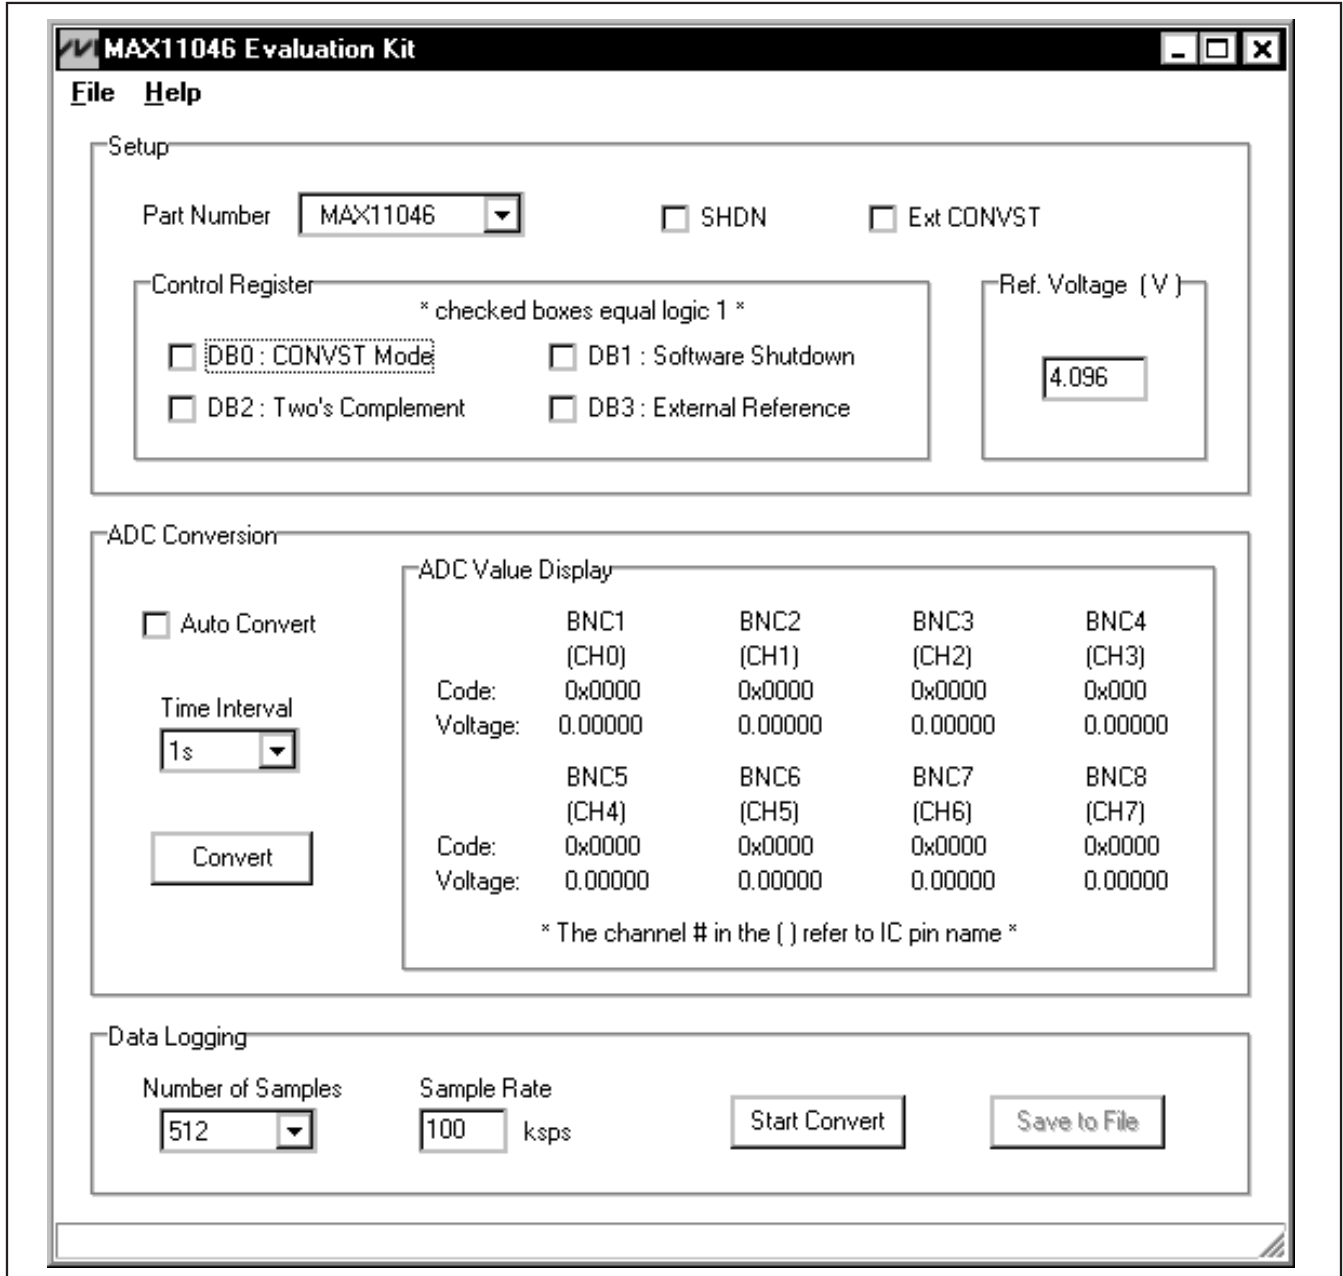

Figure 1. MAX11046 Evaluation Kit Main Window
- 10) Start the MAX11046 EV kit software by opening its icon in the **Start | Programs** menu. The EV kit software main window appears, as shown in Figure 1.
The evaluation software's window is shown in Figure 1. There are three sections on the GUI to control the IC. They are **Setup**, **ADC Conversion**, and **Data Logging**.